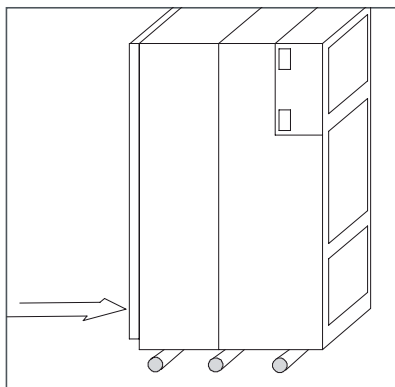

Figure 43
1. Push panel onto three cylindrical rollers (minimum diameter 30 mm) (Figure 43).